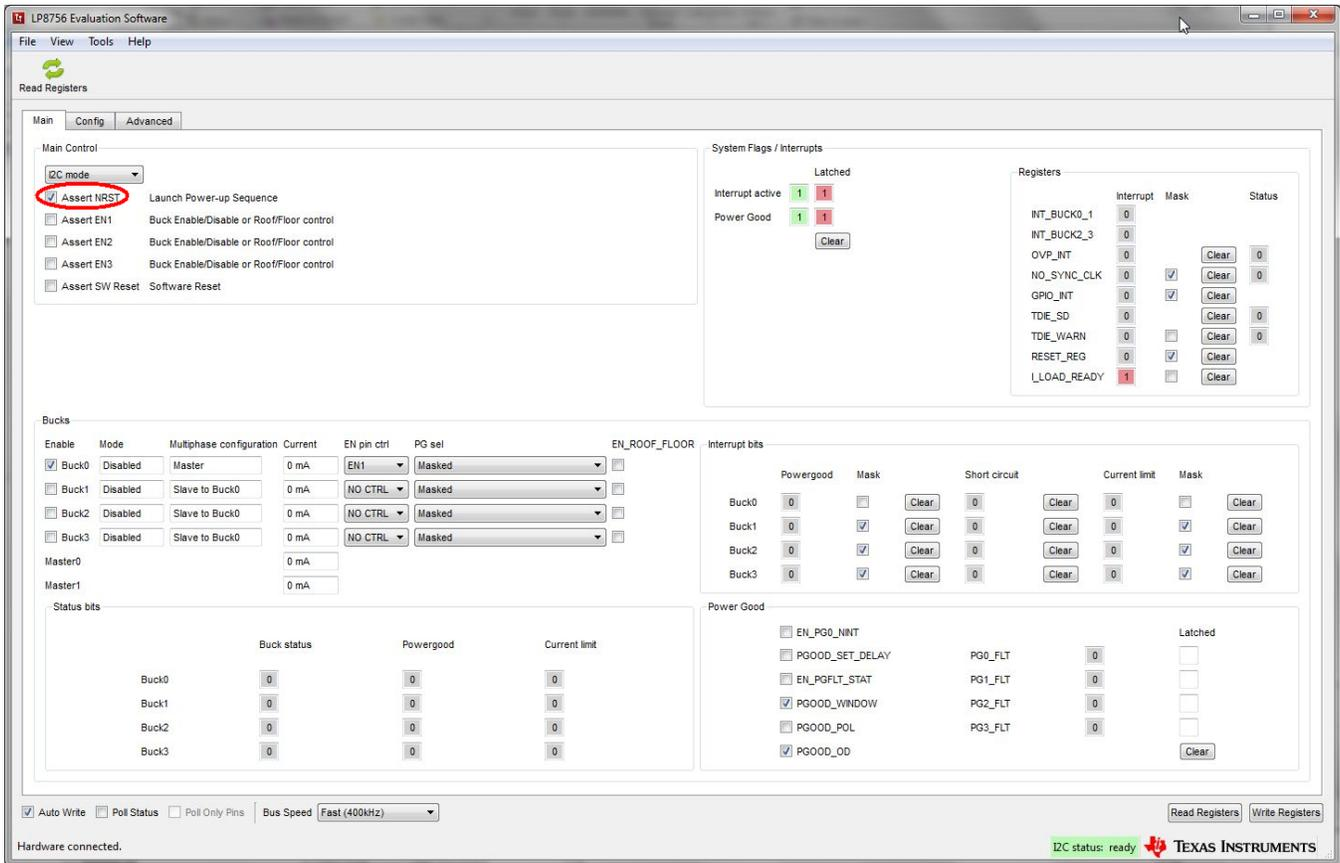

Figure 7. Assert nRST
1. On Evaluation software GUI, click on "Assert NRST" (see Figure 7).